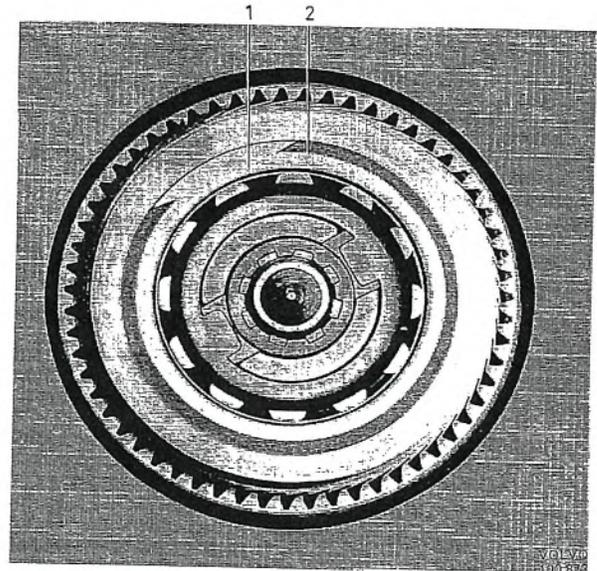
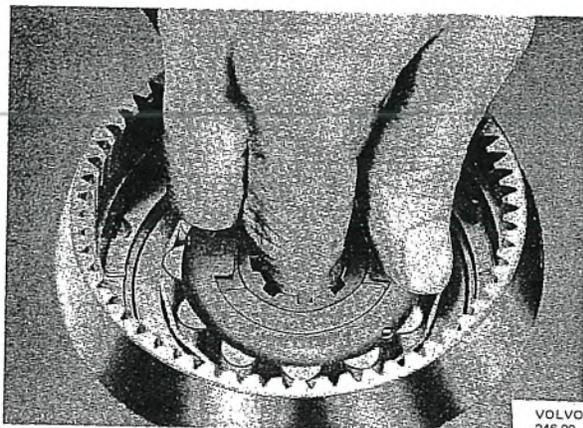

Fig. 4-47. Installing oil thrower
Fig. 4-46. Installing uni-directional clutch
6. Fit the thrust washer and then the uni-directional clutch in position on the output shaft, see Fig. 4-46. Fit the oil thrower and install the circlip, see Fig. 4-47.